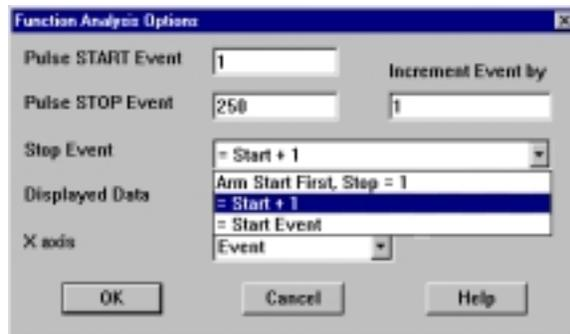

Figure 4.20 Function Stop Event
- **Stop event:** Determines the Arming and/or Stop Event (Fig. 4.20):